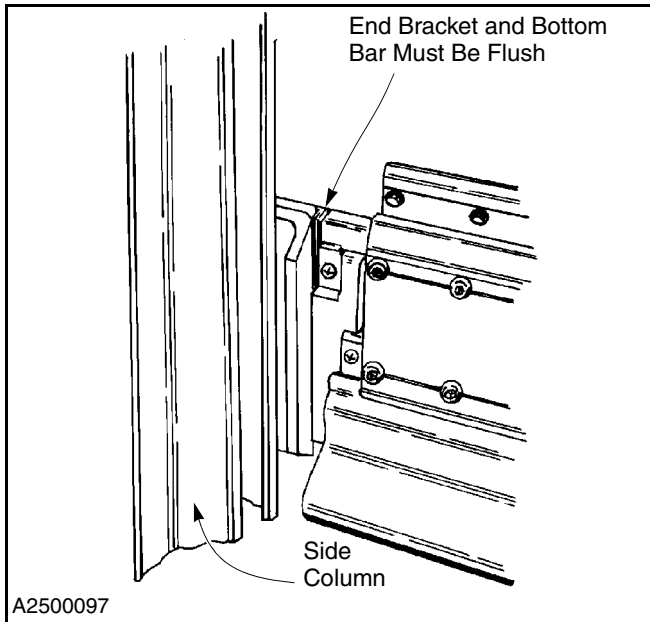

Figure 9
- Check the alignment of the end bracket and the bottom bar assembly. They must be flush at the front and back edges. (See Figure 9.)